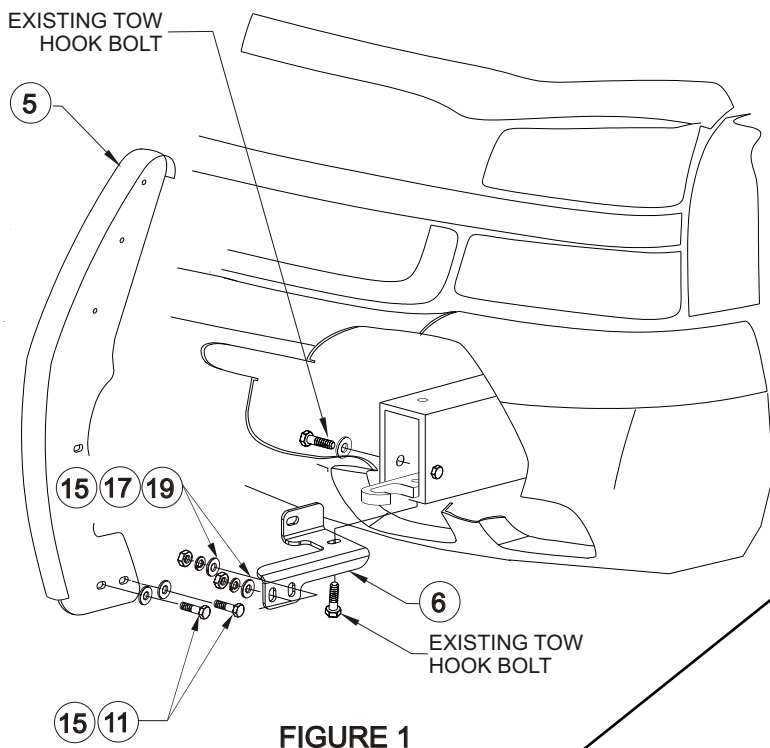

FIGURE 1
STEP 2. **1500 Models:** From underneath vehicle, locate and remove tow hook bolts on the bottom and side of frame. Attach brackets using factory bolts. **SEE FIGURE 1.** Leave loose.